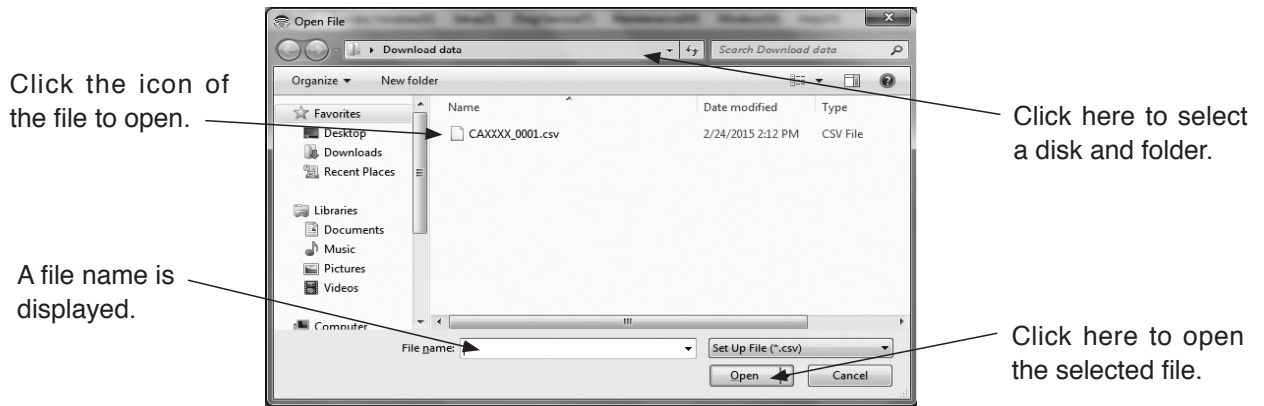

Fig.173
- ① Click the "File (F)" menu, and then select and click "Open File (O)" from the "Database (F)" drop-down list.
- ② The common dialog box (Fig. 173) appears. Select the disk and folder which have the file to be opened from the drop-down list.
- ③ Select the file to open from the displayed files. Verify the "File Name (N)" and then click the "Open (O)" button. Click the "Cancel" button to exit without opening a file.